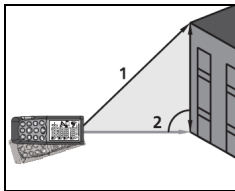

Fig. 9: Indirect 2-point measurement
3. Position the instrument in the highest point (1) of measurement (see Fig. 9) and press the  key or the side **MEAS** key to measure. The result appears on the first partial display. The symbol “” appears on the display with side “2” flashing
4. Position the instrument as horizontally as possible (2) (see Fig. 9) and press the  key or the side **MEAS** key to measure. The result appears on the second partial display
5. The final value of the result (obtained as $\sqrt{(1)^2 - (2)^2}$) is shown on the resulting display